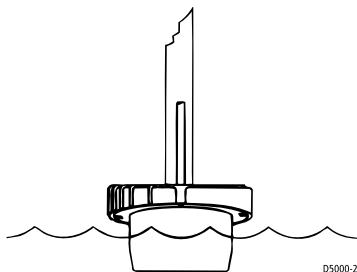

Figure 2-12: Establishing a Performance Baseline
3. Tape the transducer to a pole with the cable side up. Hold it over the side of the boat with the active face submerged in the water (see *Figure 2-12*). Keep the active face of the transducer parallel to the surface of the water.